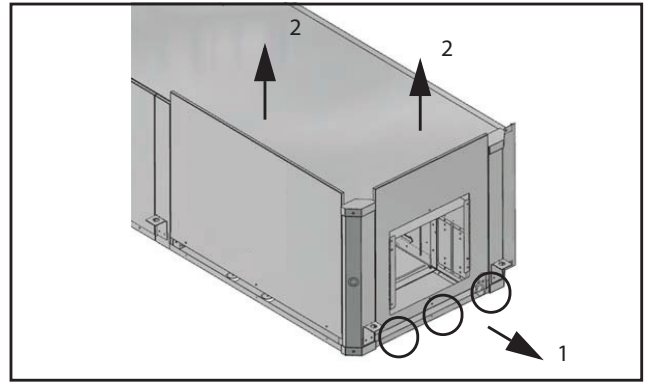

Fig. 41 - Side and End Panel Removal
1. Remove and retain end and side panels. See Fig. 41.